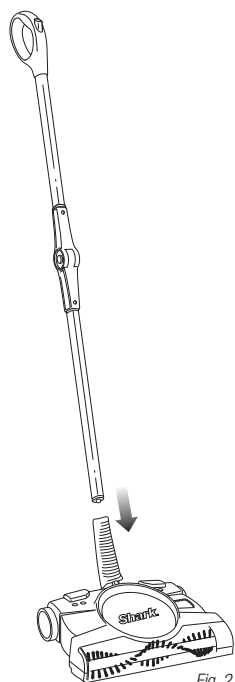

Fig. 2
- 2 Pull back on the handle and press lightly on the body of the unit with your foot to engage the steering. (Fig. 2)
- 2** Insert the Shark® Backsaver™ folding handle you just assembled into the top of the lower handle. You should hear the locking tab click into place. (Fig. 2)